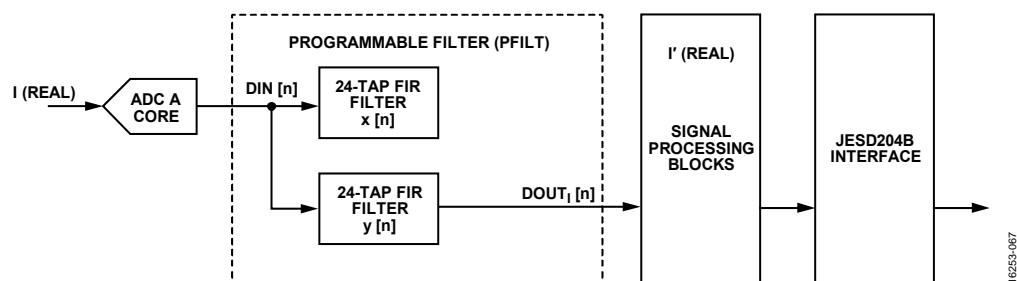

Figure 69. Real, Two Cascaded, 24-Tap Filter Configuration
- Real set of two cascaded 24-tap filters (see Figure 69)